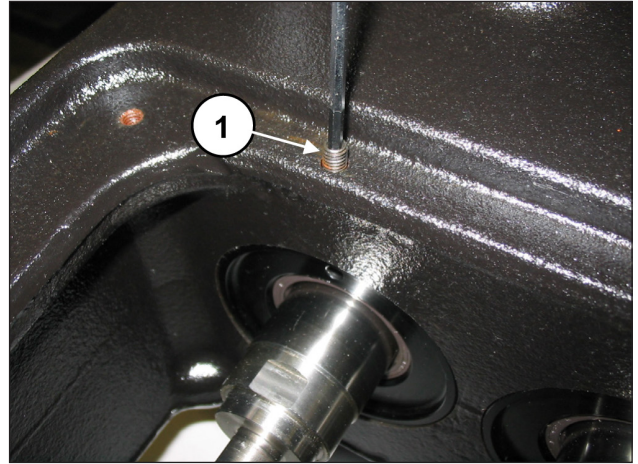

Fig. 2
Unscrew the M6 locking grub screws of the three oil seal covers (pos. ①, Fig. 2).